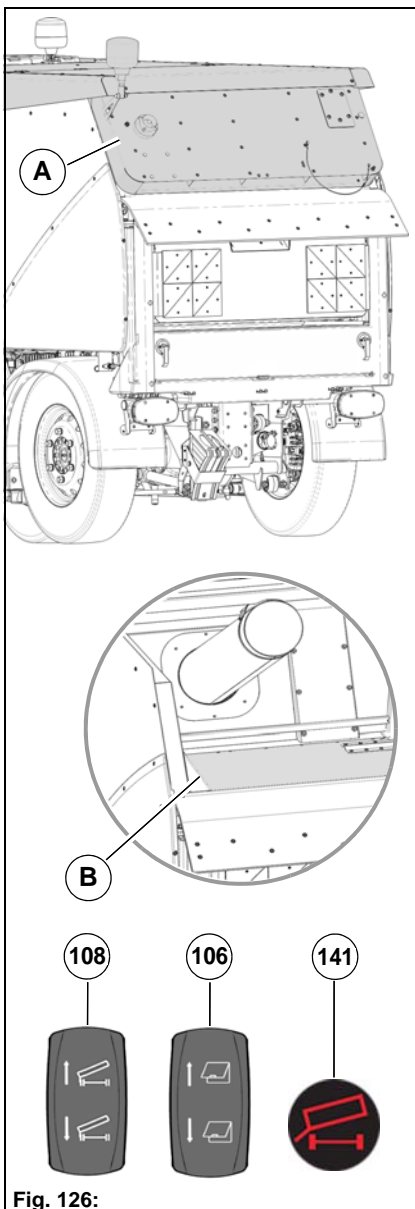

Fig. 126:
While emptying the dirt hopper, make sure that the sump valve **Fig. 126-B** is locked! If the sump valve is open when emptying the dirt hopper, the circulating water system may be clogged.
3. Open the dirt hopper flap **Fig. 126-A** with the tip switch **Fig. 126-106**.